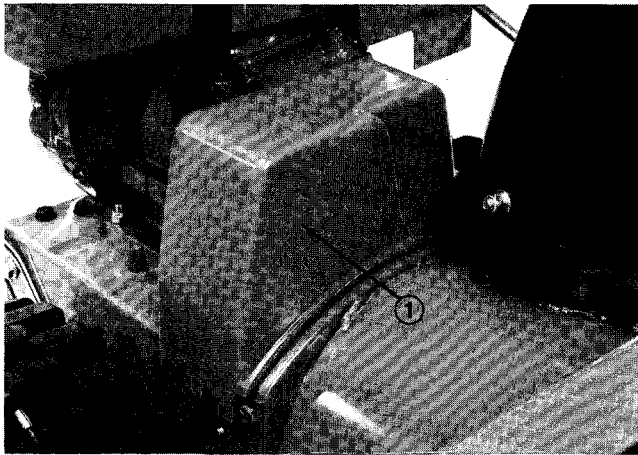

Figure 30
2. Remove two thread forming screws holding belt cover in place, and set belt cover aside (Fig. 30).
2. Remove two thread forming screws holding belt cover in place, and set belt cover aside. (Fig. 30).